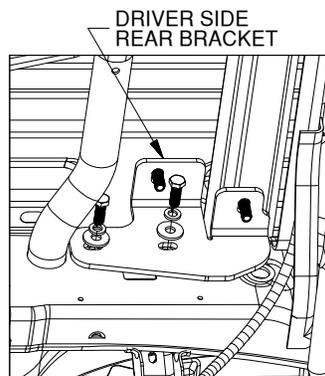

FIGURE C4: View looking up at driver side frame
6. **Install the driver side rear bracket.** Locate the driver side rear bracket, two M12 x 35mm hex head bolts (shorter), two 1/2" split lock washers, and two 1/2" flat washers. Position the bracket under the installation location of the two driver side carriage bolts. Maneuver the bracket so that the 1/2" carriage bolts passes through the slots at the top of the bracket. Using 1/2" lock washers and 1/2" flat washers, Thread the shorter (35mm) M12 hex head bolts into the frame through the holes in the bracket, see Figure C4.